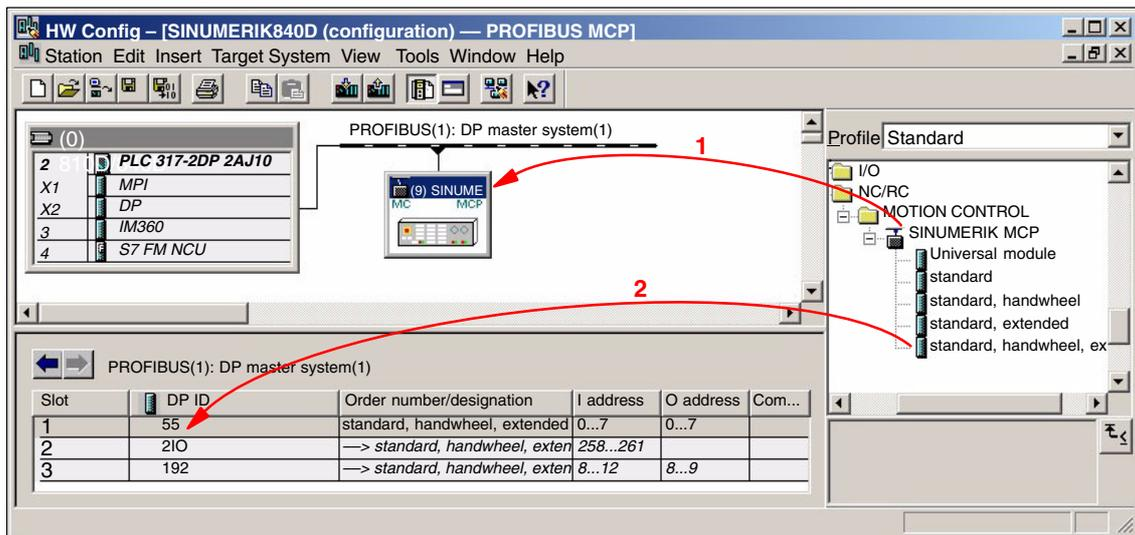

Fig. 8-19 Configuration with DP slave: MCP 483
This chapter describes the configuration of a DP slave: MCP 483 by way of example of the hardware configuration of a SIMATIC S7 project shown in Fig. 8-19.
1. Insert DP slave: MCP 1,226.82 cm the configuration (see Fig. 8-19, Page 8-233: 1)
3. Insert the modules in DP slave: MCP 483 for the functions required. (see Fig. 8-19, Page 8-233: 2)